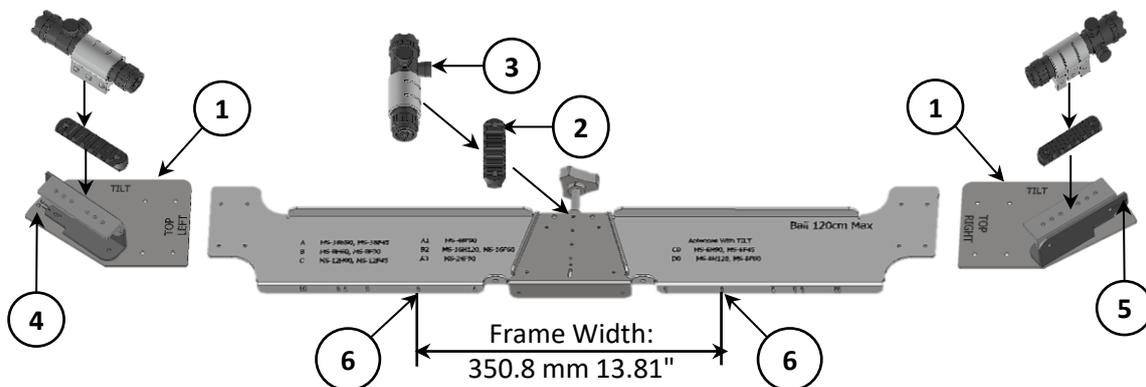

Figure 5: SLP Assembly
5. USA Laser Assembly Instructions (Figure 5.)